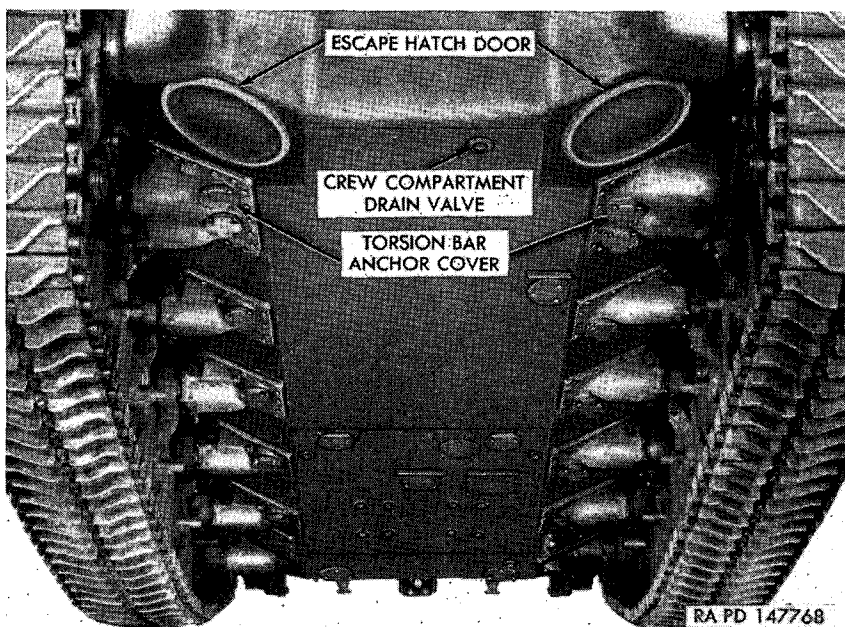

Figure 284. Bottom of hull—front view.
- (1) *Hull bottom covers.* There are 12 covers on the bottom of the hull, accessible from below the tank (figs. 284 and 285).